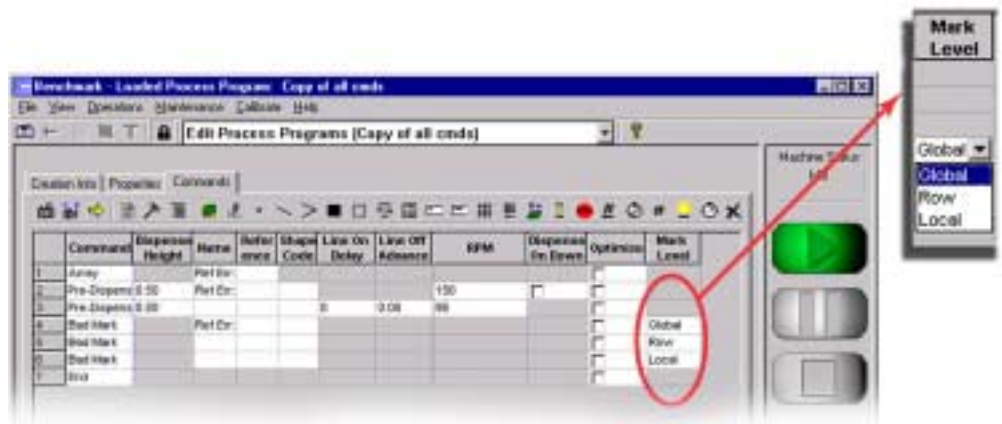

Figure 10-9
1. Load an existing program that you wish to place a Bad Mark in. Figure 10-9 illustrates a typical program containing Bad Marks.
6. Select the **Bad Mark Level** (Global, Row, or Local) for each bad mark command line placed within the program. See Figure 10-9.